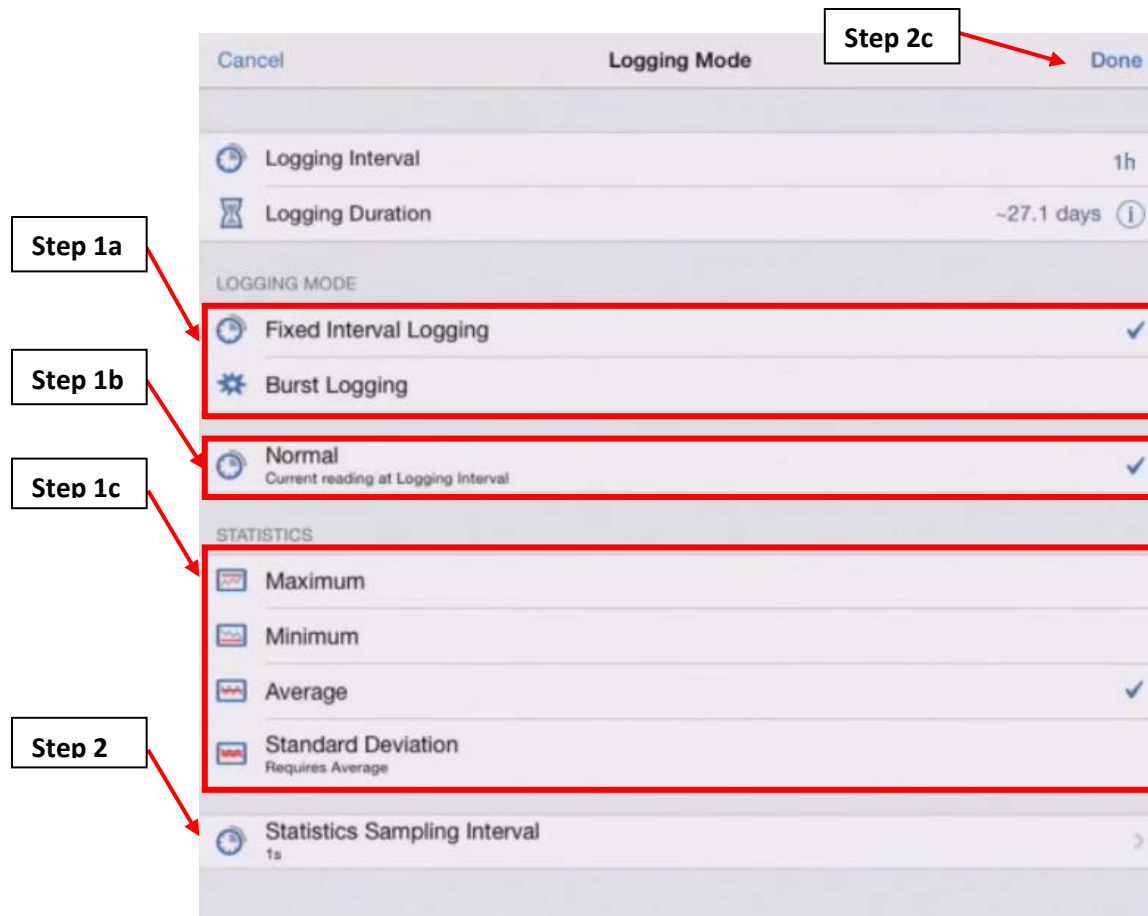

Figure A.7.11: The “Logging Mode” screen.
1. On the “Configure” screen (Figure A.7.10), go to the “Advanced” section and tap the “Logging Mode” option, which will take you to the “Logging Mode” screen as shown on Figure A.7.11.
- c. Tap “Done” to return to the “Configure” screen (Figure A.7.11).